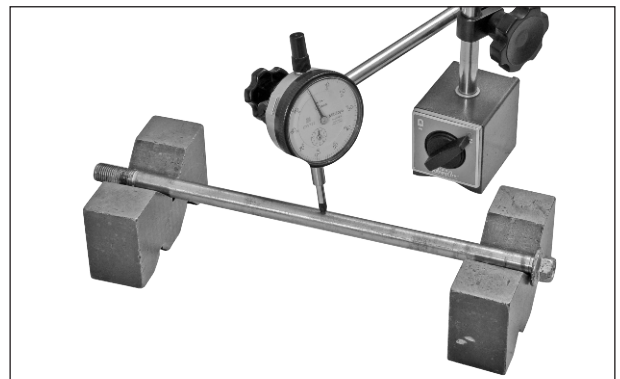

Fig. 6.148
- Using the special tools, check shaft complete swing arm for run-out and replace it with a new one if run-out exceeds the limit. (Fig. 6.148)